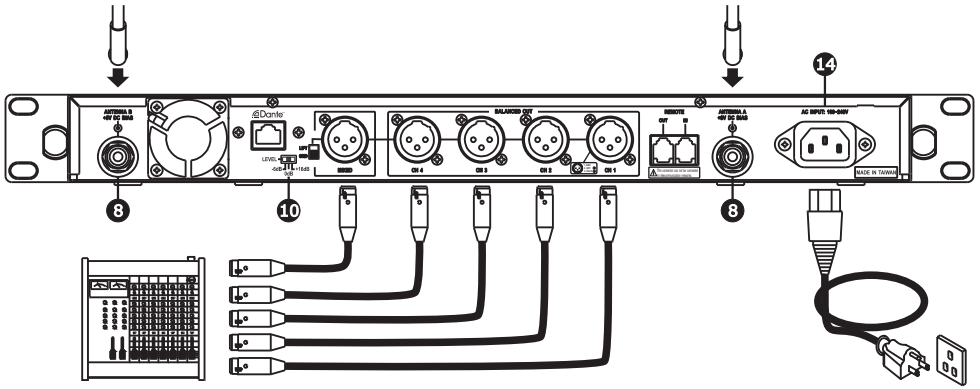

Fig. 3
1. Connect an antenna to each antenna connector ⑧ on the rear panel, Fig. 3.
- (A) Connect the power cord to the optional AC power input socket ⑭ and plug the other end into an AC 100~240V power source, Fig. 3.